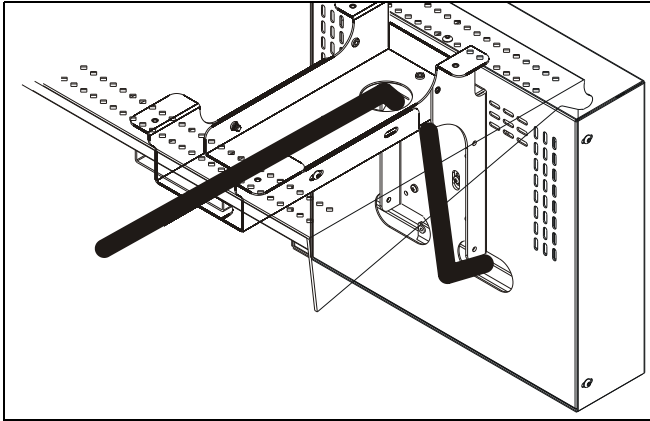

Figure 9
8. Connect cables and cords to display and route as shown in Figure 9.